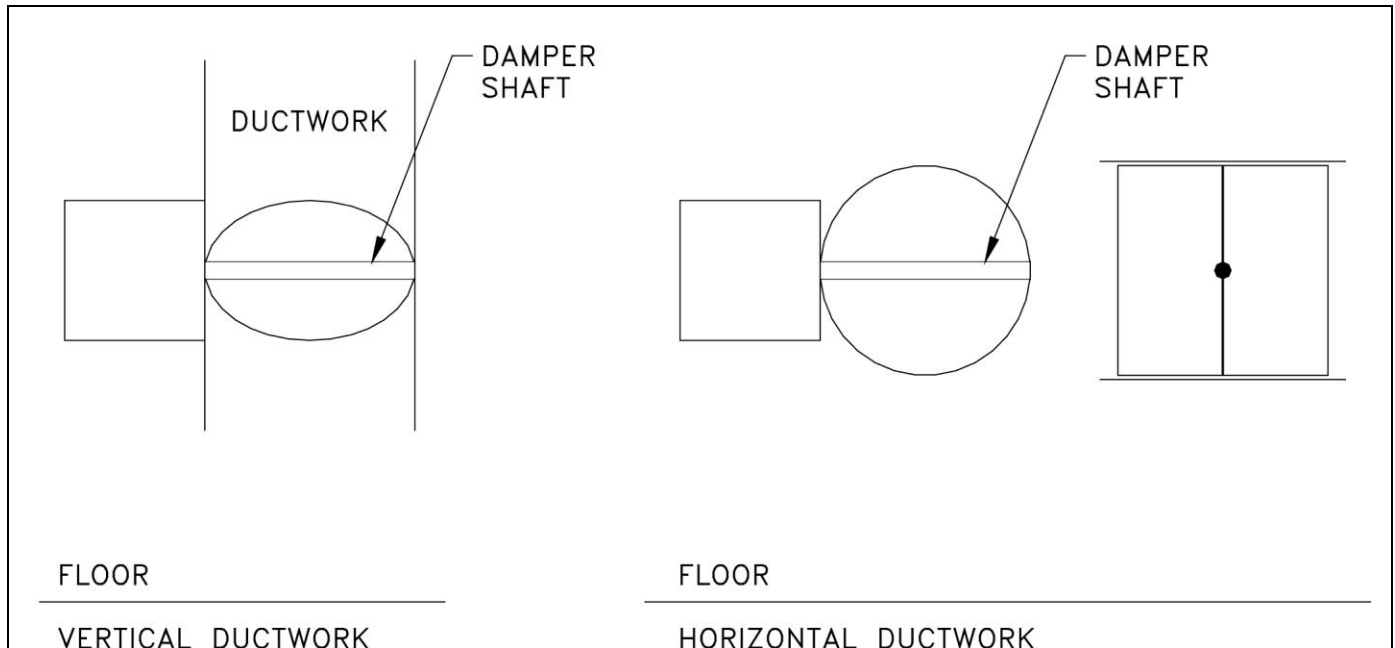

Figure 30. Proper Damper Mounting
- The damper must be installed with the damper shaft parallel to the ground (Figure 30).